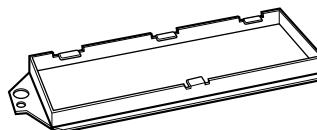

Figure 28
3. **ROOF-VENTED INSTALLATION:** Align the duct connector with the vent on top of the microwave oven. Damper should be on top of tab. Use two tapping screws (bright-colored) to attach duct connector to the microwave oven. See Figure 28, 29.